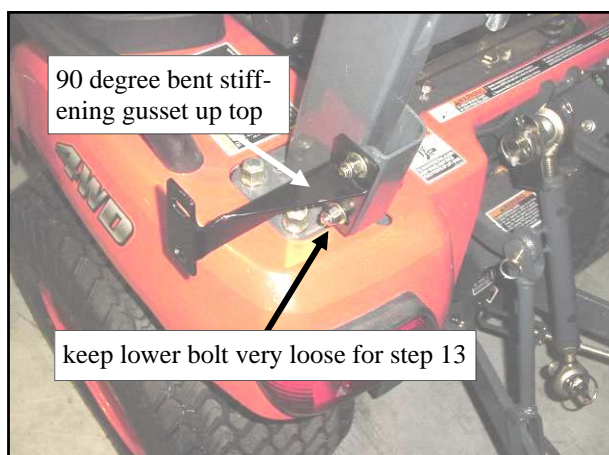

Fig. 8.1 (view from rear of left side)
**8.1** Per fig. 8.1, install the mount oriented as shown with the bent stiffening gusset up top. Use the following hardware per side: two 3/8-16 x 1" long hex head bolts, four steel washers, and two locknuts. Locknuts to be on the outside. Leave bolts loose.
Note: before installing Lower Rear Panel, make sure lock nuts on the lower 3/8-16 x 1" bolts of the ROPS Mount (lower) are loose and only started a couple turns. See fig. 8.1 on page 6.